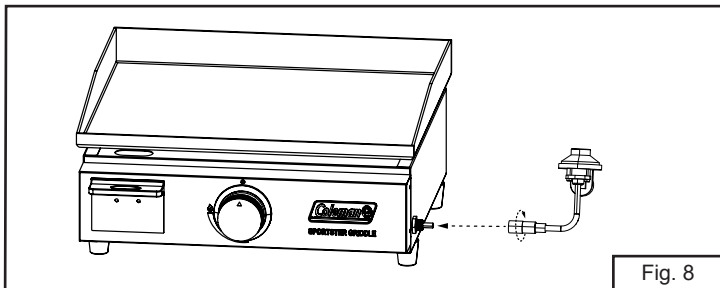

Fig. 8
6. Insert the gas regulator into the gas line of the griddle, then turn the collar of the gas regulator clockwise to secure it to the gas line (Fig. 8). DO NOT cross thread.